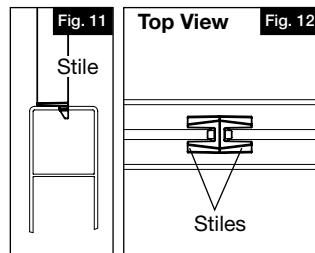

Fig. 11
- Rotate the stiles 90 degrees and lock them into the middle. (Fig. 11).